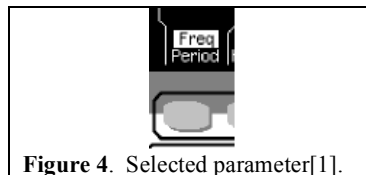

Figure 4. Selected parameter[1].
1. Press the dynamic button beneath the display until the desired parameter is selected. Selection is denoted by black text on a white background as depicted in Figure 4.